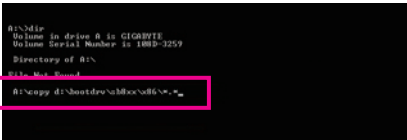

Figure 1
- For the AMD SB850, type (Figure 1):^(Note 1)